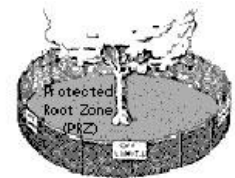

Figure 5. Put up fences and signs around trees you want to save to alert construction workers to damage potential.
- **Protect the trees you plan to save.** Develop a map with the builder or architect showing the location of trees to be protected and the safest route for access to the building zone. Then install bright orange polypropylene fencing and post "Off Limits" signs at the PRZ of the trees you plan to save (Fig. 5). Your primary objective is to protect delicate root systems, so provide your trees with as much space as possible. Make sure all construction workers know that nothing inside this area is to be raked, cut, stored, or otherwise disturbed. A landscape protection contract signed by the builder and all contractors will help ensure compliance. Take several photographs of the site before construction begins to document the protection methods used and the condition of individual trees.